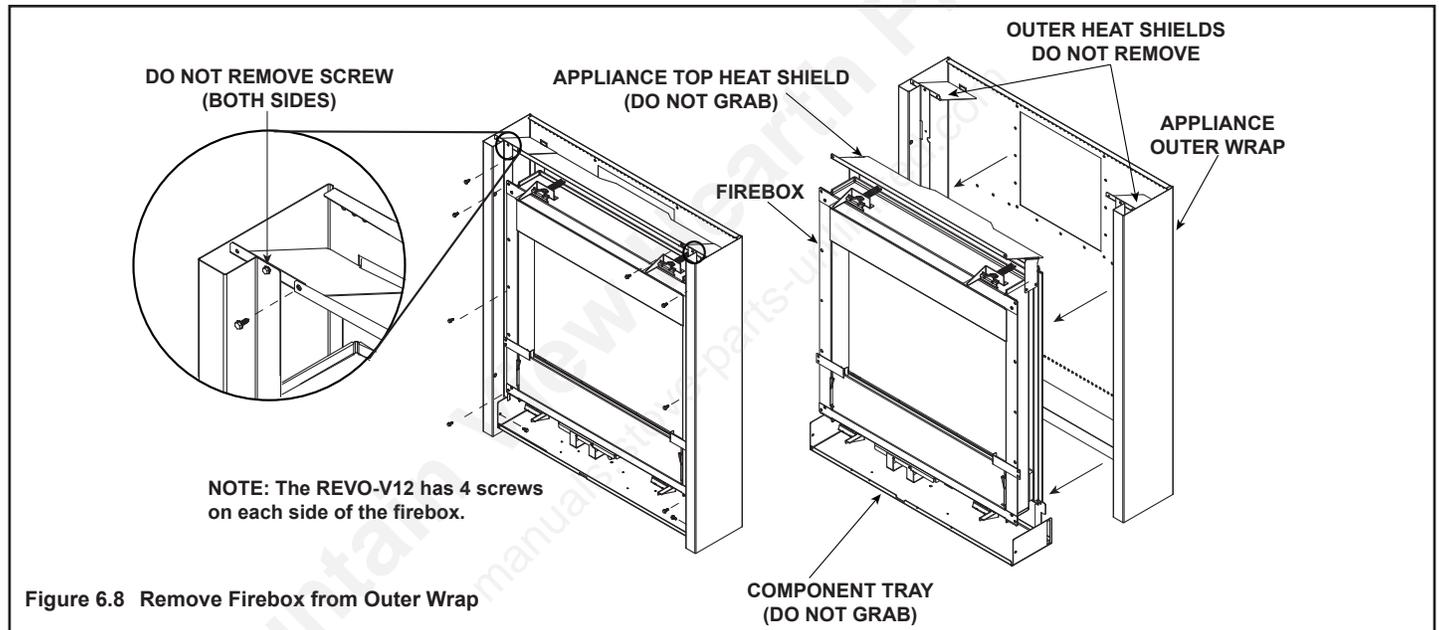
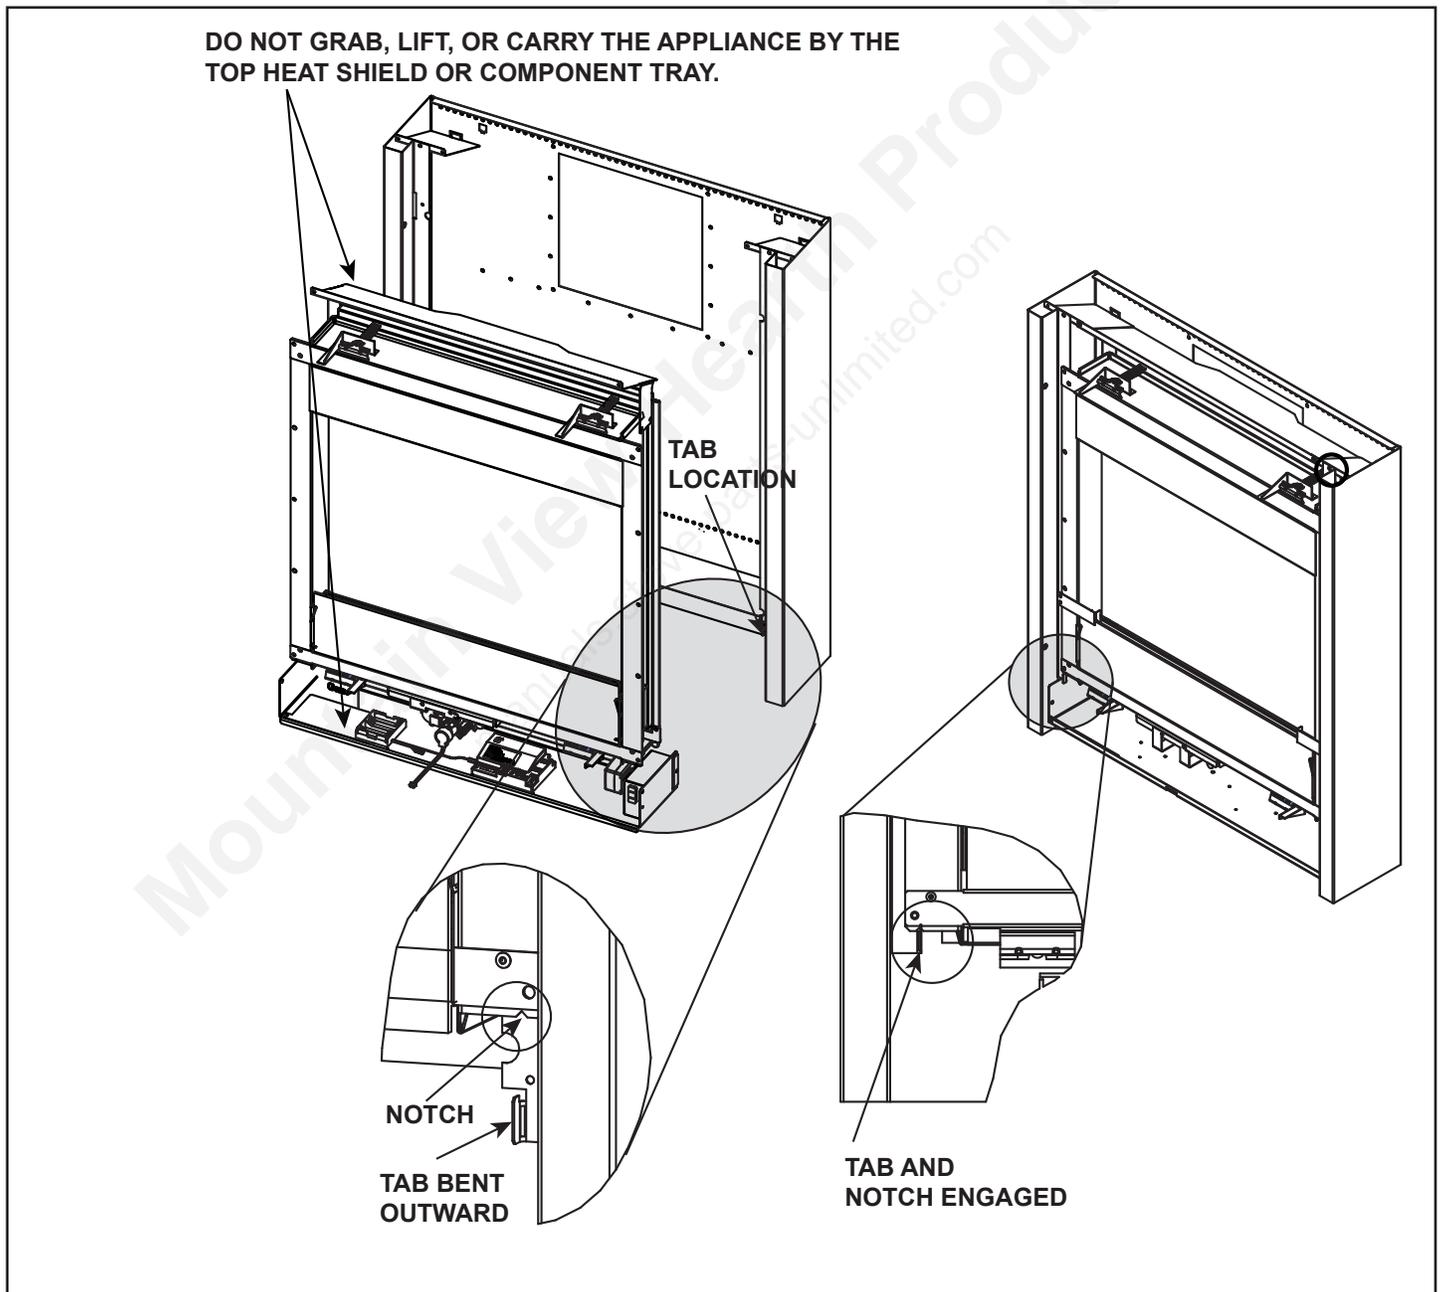

Figure 6.8 Remove Firebox from Outer Wrap
Figure 6.13 Install Firebox On Appliance Outer Wrap
2. Remove the screws that attach the firebox to the outer wrap. See Figure 6.8. Separate the firebox from the outer wrap. Carefully set the firebox aside holding it by the sides. Do not grab, lift or carry the appliance by the top heat shield, or component tray. Lay the appliance on its back to avoid damaging the component tray.
1. Install the firebox into the outer wrap by mating the tabs on the outer wrap with the notches located on the lower left and right bottom corners of the firebox. Do not grab, lift or carry the appliance by the top heat shield, or component tray. See Figure 6.13. The process of mating the tabs and notches accommodates the alignment of the screws with the corresponding holes. The tabs on the outer wrap should be bent outward as shown in Figure 6.13. Reinstall screws using Figure 6.8 as a reference.